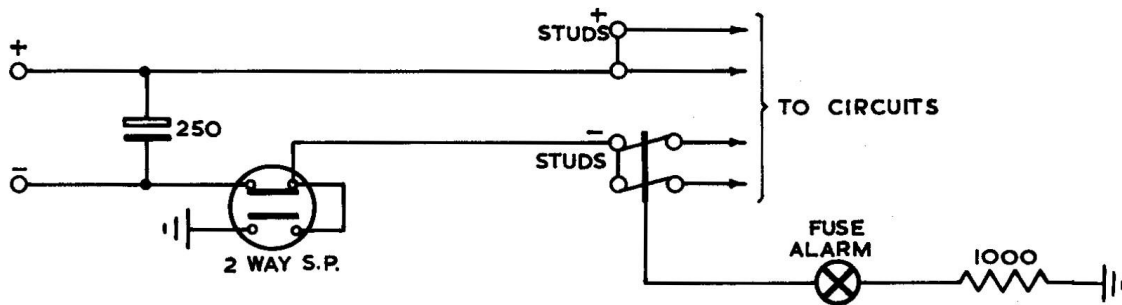

FIG. 27. D.C. SUPPLY CIRCUIT.
9.2 D.C. Power Supply. The D.C. power for the P.M.B.X. may be obtained via a power lead from the local exchange or from a locally located rectifier unit. The voltage measured at the P.M.B.X, under load conditions must be within the range 40-50 volts to ensure correct operation of the relays and to obtain 6 volts across each lamp. The D.C. supply to the P.M.B.X. is controlled by a switch which, when the power is disconnected, earths the battery leads within the P.M.B.X. to prevent false operation of relays from charges stored in capacitors etc. (Fig. 27).